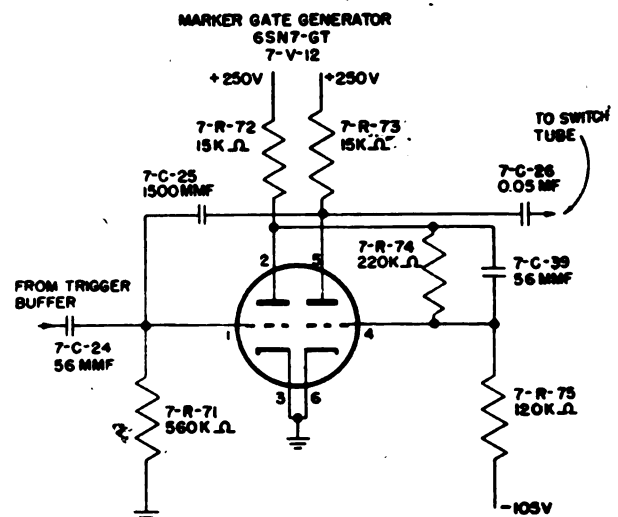

Figure 121. Marker gate generator, simplified schematic diagram.
*a. MARKER GATE GENERATOR.* The marker gate generator (fig. 121), tube 7-V-12, is a start-stop multivibrator. It is triggered by a negative pulse developed at the output of the trigger buffer stage.
**a. MARKER GATE GENERATOR.** A 6SN7-GT dual triode tube, 7-V-12 (fig. 121), is used in the first stage of the range marker system as a marker gate generator. A negative square pulse, 1 microsecond wide and 100 volts in amplitude, is taken from the plate load resistor, 7-R-4, of the trigger-buffer stage, 7-V-5, and applied to the grid of the first section of 7-V-12 through capacitor 7-C-24. The marker gate generator is a start-stop multivibrator which functions in the same way as the sweep gate generator, 7-V-6 (par. 43*b*). The time constants of the multivibrator coupling circuits are so chosen that the output pulse length assures sufficient range markers for all four scope ranges. The output of the first section of 7-V-12 is applied to the grid of the second section through resistor 7-R-74 in parallel with capacitor 7-C-39, this combination sharpening the sides of the pulse.